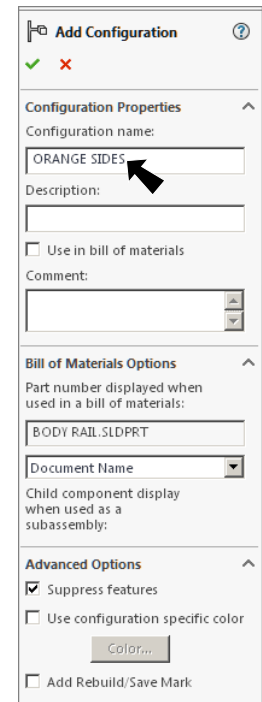

Fig. 166
Step 8. In the Add Configuration Property Manager: under Configuration name, **Fig. 166** key-in **ORANGE SIDES** click OK .